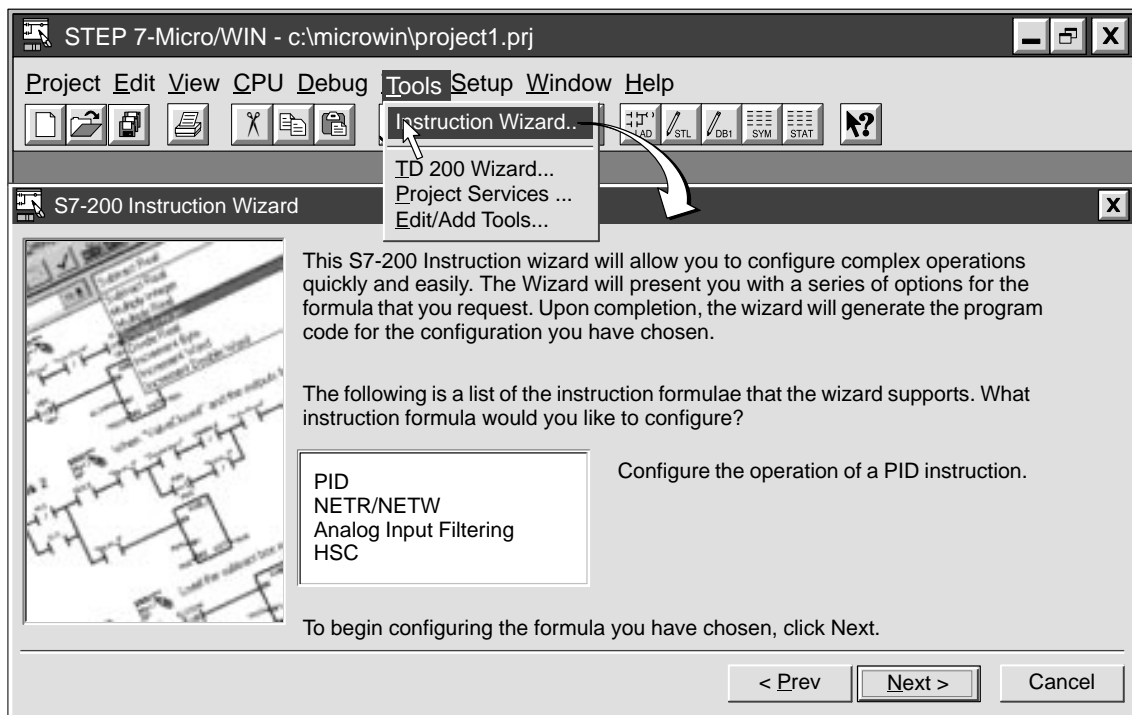

Figure 5-13 Using the S7-200 Instruction Wizard
1. Select the menu command **Tools ► Instruction Wizard...** as shown in Figure 5-13.